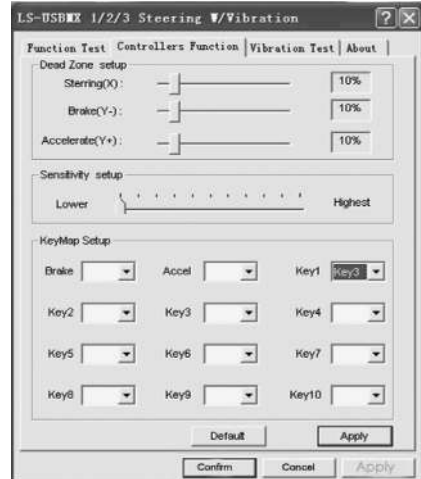

Fig. 8
- Choose Controllers to set axes and buttons (Fig. 8).
- Dead Zone setup: controller will not respond to a slight touch of acceleration pedal (Accelerate Y+), or brake pedal (Brake Y-), or turns of the wheel (Steering X), therefore necessary adjustments should be made by cursors (Fig. 8);
- Sensitivity setup: the higher sensitivity is, the swifter and more efficient response of controller to pressing of pedals and turns of the wheel will be, therefore necessary adjustments within Lower to Higher range should be made by cursors (Fig. 8);
- KeyMap Setup reprograms functional keys: there should be chosen new necessary assignment against the key designation (Fig. 8);
- After installation of the driver, the controller can be automatically centered by pressing MODE button ⑪.